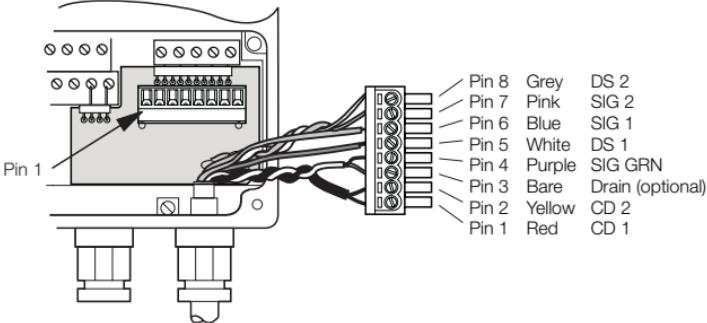

Fig. 3.3 Fitting the Sensor Cable Plug
5. Connect the sensor cable leads to the adaptor plug – see Fig. 3.3. Do not fit the plug to the socket on the adaptor board.